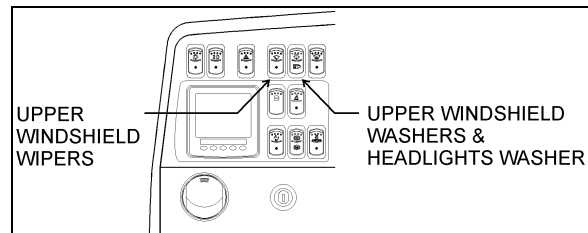
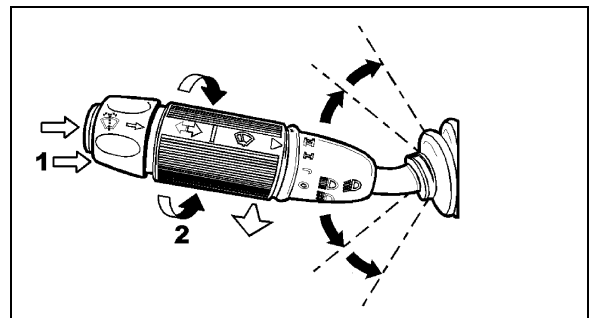

FIGURE 33: DASHBOARD
FIGURE 34: MULTIFUNCTION LEVER 23133
Depress the upper windshield wiper switch located on the dashboard L.H. side to the first position for intermittent wiping, and to the second position for continuous wiping (Figure 33).
Rotate the multifunction lever forward to activate lower windshield wipers (arrow 2, Figure 34). The first position operates the wipers at low speed and the second position operates the wipers at high speed. Turning the lever backwards will operate the wipers in the intermittent mode.
To activate the upper windshield washer pump, depress and hold the top of the rocker switch on dashboard L.H. side (Figure 33). The upper wipers will come on automatically and will shut off a few seconds after releasing the rocker switch. The lower windshield washer pump is electrically operated and is controlled by a washer control ring on the multifunction lever (item 1, Figure 34).